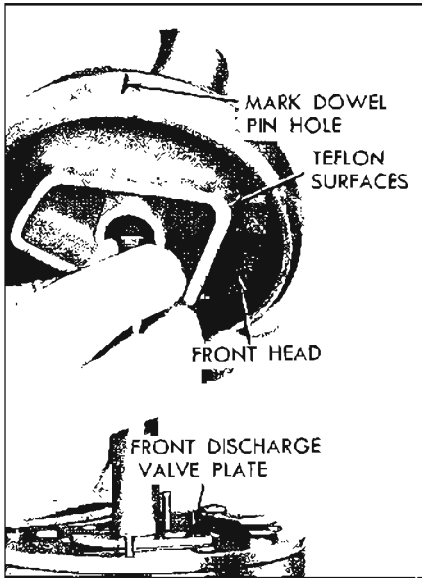

Figure 11-100—Placing Front Head on Cylinder Assembly
45. Coat teflon surfaces on front head (see Figure 11-100) with No. 525 viscosity oil.
46. Mark with pencil on side of front head the location of dowel pin holes (see Figure 11-100),